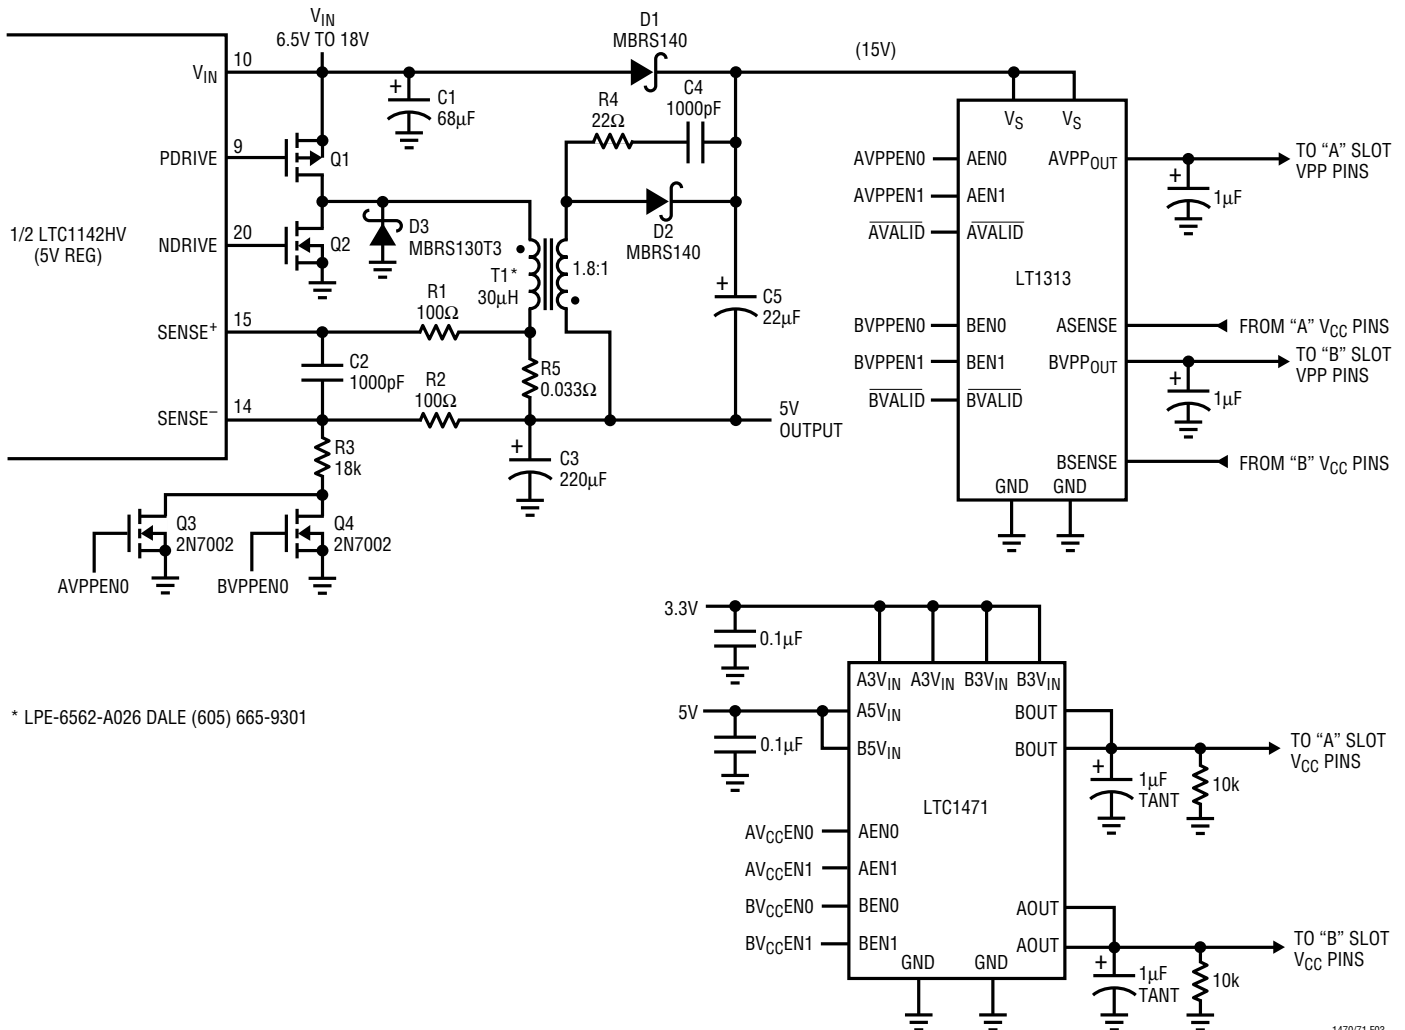

Figure 3. Cost Effective Complete SafeSlot Dual PCMCIA Power Management System (with 15V Auxiliary Supply from LTC1142HV 5V Regulator Inductor)
Figure 3 is a schematic diagram which describes how a loosely regulated 15V power supply is created by adding an auxiliary winding to the 5V inductor in a split 3.3V/5V LTC1142HV power supply system. An LT1313, dual VPP regulator/driver with SafeSlot protection, produces “clean” 3.3V, 5V and 12V power from this loosely regulated 15V output for the PC card slot VPP pins. (See LT1312 and LT1313 data sheets for further detail.)
winding is rectified by diode D2, added to the main 5V output and applied to the input of the LT1313. (Note that the auxiliary winding must be phased properly as shown in Figure 3.)
For low-battery count applications (<6.5V) it is necessary to modify the circuit of Figure 3. As the input voltage falls, the 5V duty cycle increases to the point where there is simply not enough time to transfer energy from the 5V primary winding to the auxiliary winding. For applications where 12V load currents exist in conjunction with these low input voltages, use the circuit shown in Figure 4. In this circuit, the auxiliary 15V supply is generated from an overwinding on the 3.3V inductor of the LTC1142 regulator output.
In Figure 3, power is drawn directly from the batteries through D1 when the regulator is in Burst Mode operation and the VPP pins require 3.3V or 5V. In this circuit, however, Q3 and Q4 force the LTC1142 3.3V regulator into continuous mode operation whenever 3.3V, 5V or 12V is programmed at the VPP_{OUT} pins of the LT1313. (See the LT1312 and LT1313 data sheets for further detail.)
SEE FIGURES 3, 4 FOR FURTHER DETAIL
* FROM OVERWINDING ON 3.3V OR 5V INDUCTOR IN SYSTEM POWER SUPPLY. SEE FIGURES 3, 4 FOR FURTHER DETAILS